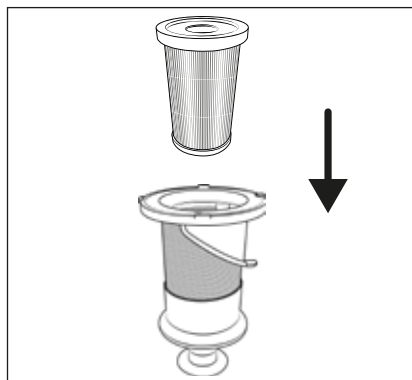

Fig. 22
① Note
- 7) Insert the HEPA filter **5** into the stainless steel filter **6** (see Fig. 22).